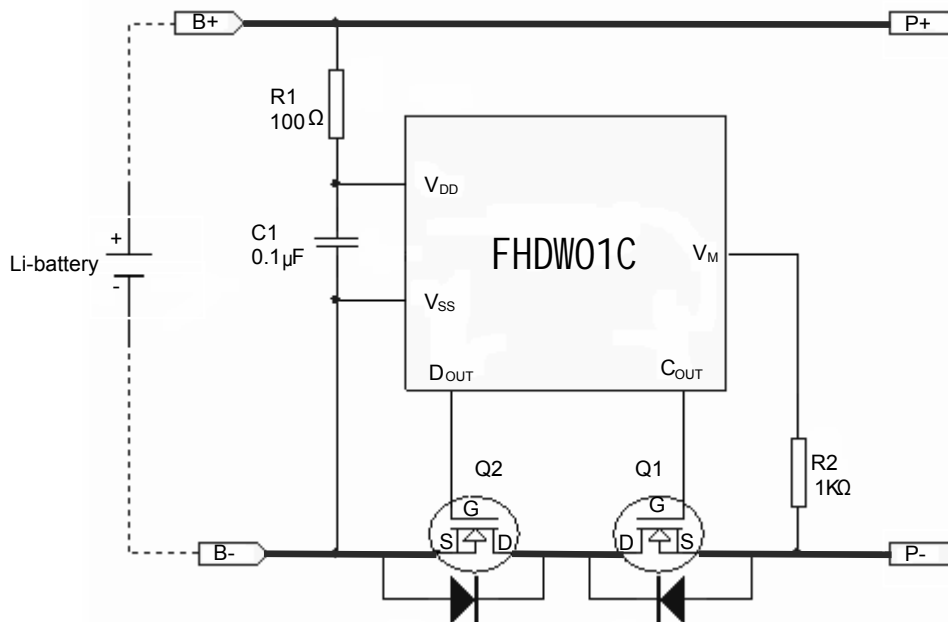
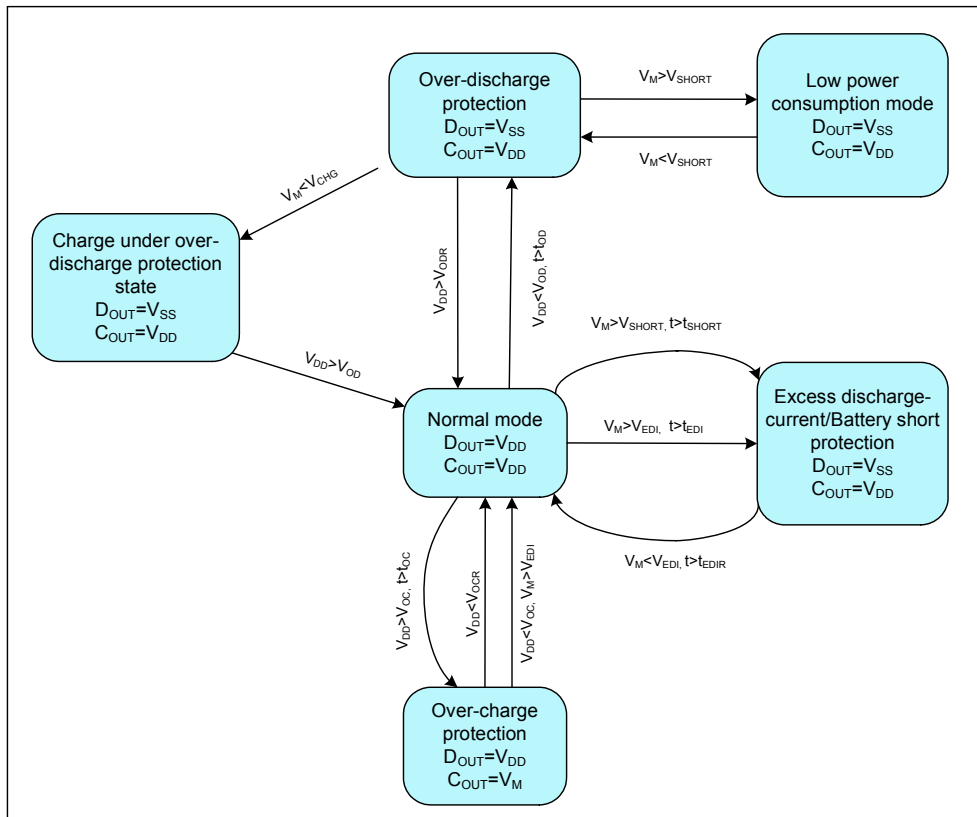

Figure 3 FHDW01C Typical Application Schematic
Figure 4 FHDW01C State Conversion Diagram
2. Shown in Figure 3.
FHDW01C is a high precision protection circuit for the one-cell Li-ion or Li-polymer battery. Under normal conditions, during the battery charging, FHDW01C may get into the over-charge protection. It resets to the normal condition when it reaches the release condition. During the battery discharging, FHDW01C may get into the over-discharge or excess-current discharge protection. It can also reset to the normal state when it reaches the release condition. Figure 3 shows the typical application schematic. The state conversion diagram is shown in Figure 4. The detailed description of each condition is followed.